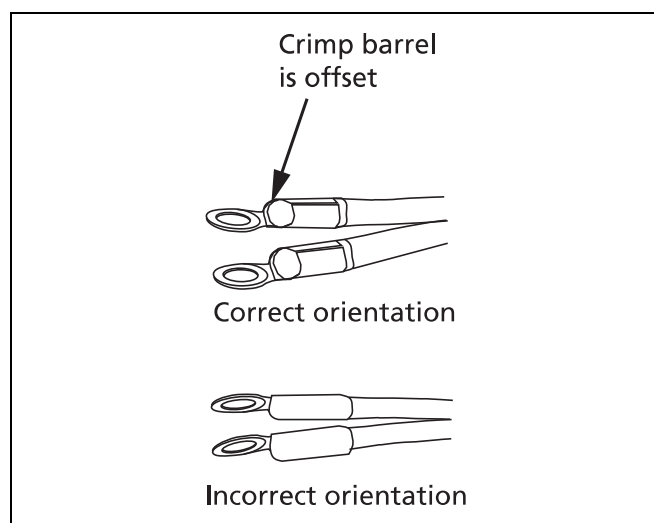

Figure 4. Orientation of Line Cord Screw Lugs
- 7 Position the screw lugs of a new line cord on the PCB. Make sure the crimp barrel offset side of the screw lugs is up (see Figure 4) and that the line cord screw lugs are flush against the PCB.